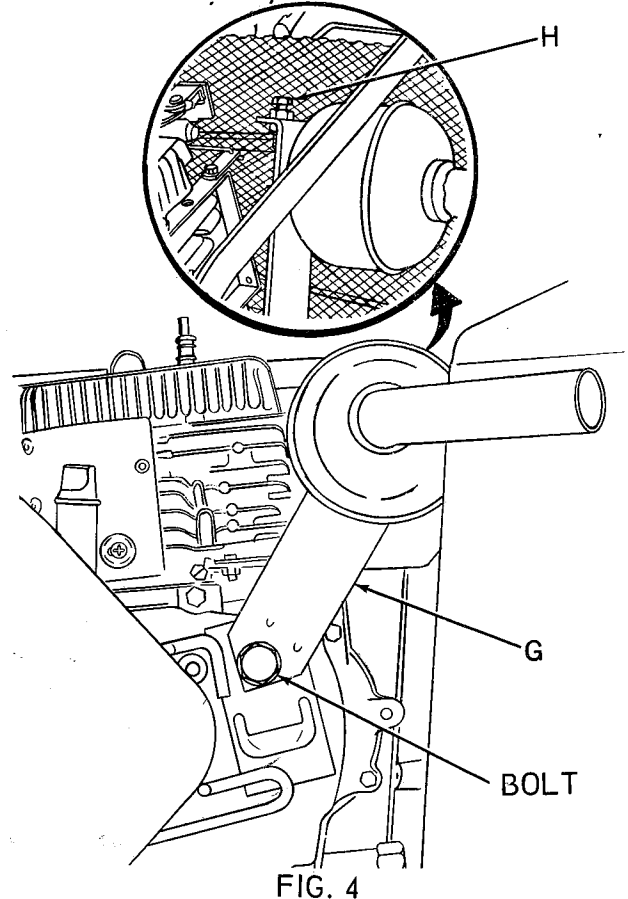

FIG. 4
8. Refer to Fig. 4. Remove belt guide (G) from around engine pulley. Some tractors have two bolts holding belt guide (G) to engine, and some have only one. If belt guide is also fastened to muffler. It will be necessary to loosen bolt (H) in belt guide bracket at muffler to swing belt guide away from engine pulley.